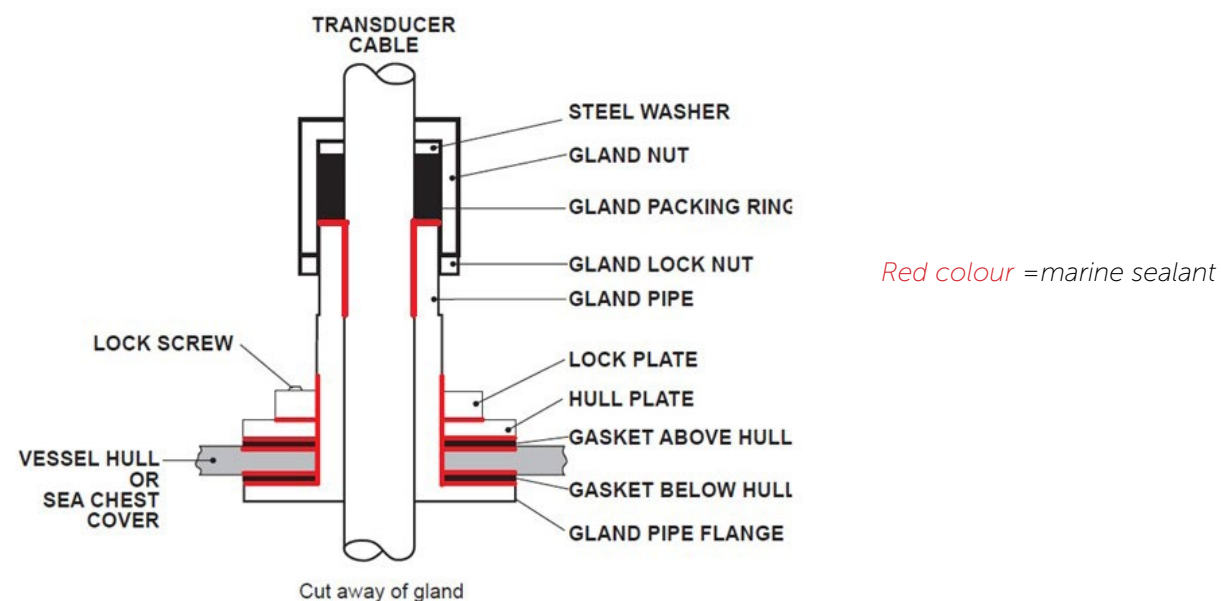

Figure 10. Mounting the Gland Assembly
- » Always use a good quality marine sealant to seal across the areas that can leak (See "Figure 10. Mounting the Gland Assembly" on page 26). Before applying marine sealant to the parts, make sure they are free from oil and water. Use general cleaning solvent to remove oil or grease if needed.
13	Tighten the gland nut by hand until the components are aligned. Use a spanner to further tighten the nut with light arm force for around 1 to 1.5 turn until an increase in resistance is felt. After that, further tighten the nut by 2 turns or tighten to 30Nm. Tighten the lock nut against the gland nut. Double check the tightening by measuring the length from the nut bottom edge to the ending edge of the nut thread on the gland body (length A) for aluminium and acetal glands (Figure 10). With steel glands, check the length from the nut bottom edge to the flat surface on the gland base (length B in Figure 11). Length A needs to be less than 20mm. Length B needs to be less than 14mm.
Complete fitting and tightening the gland as shown in "Figure 10. Mounting the Gland Assembly" on page 26.